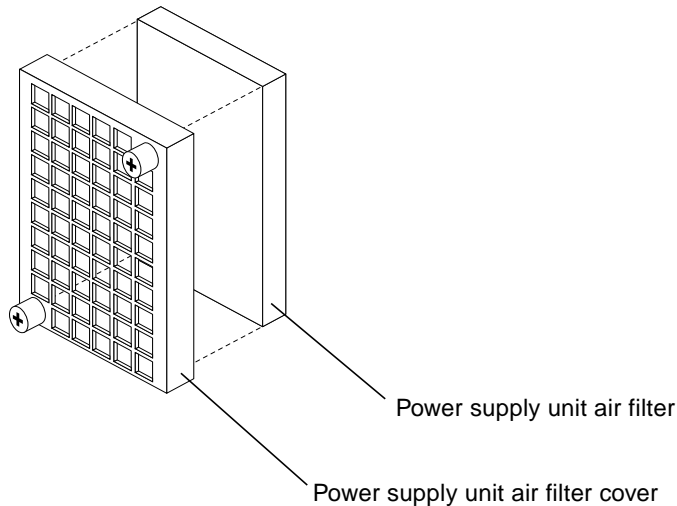

FIGURE 8-17 Removing a Power Supply Unit Air Filter
1. **Insert the power supply unit air filter** (FIGURE 8-17).